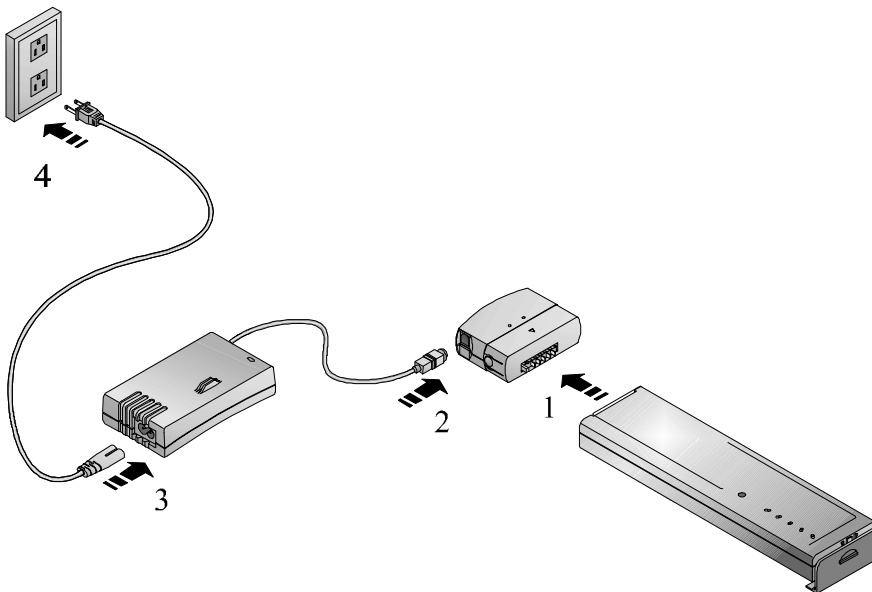

Figure 6-12: Charging a Battery with the External Charger
1. Connect the battery to the External Battery Charger. (Figure 6-12)